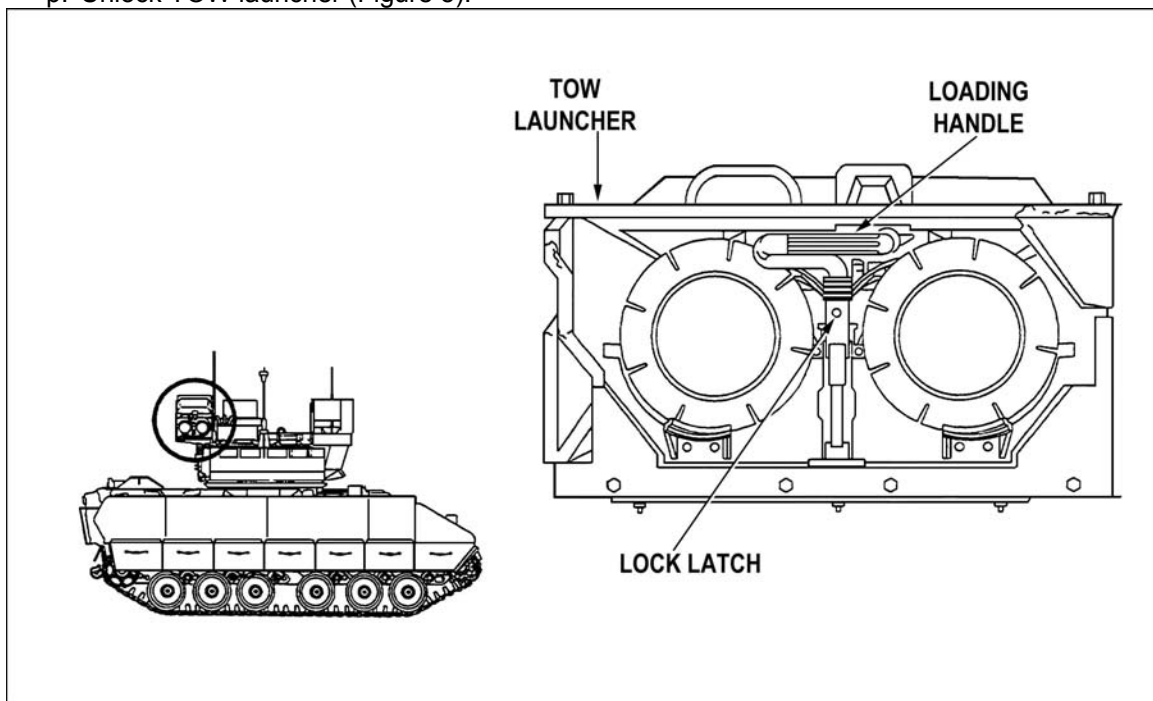

Figure 5. TOW launcher lock latch.
- p. Unlock TOW launcher (Figure 5).